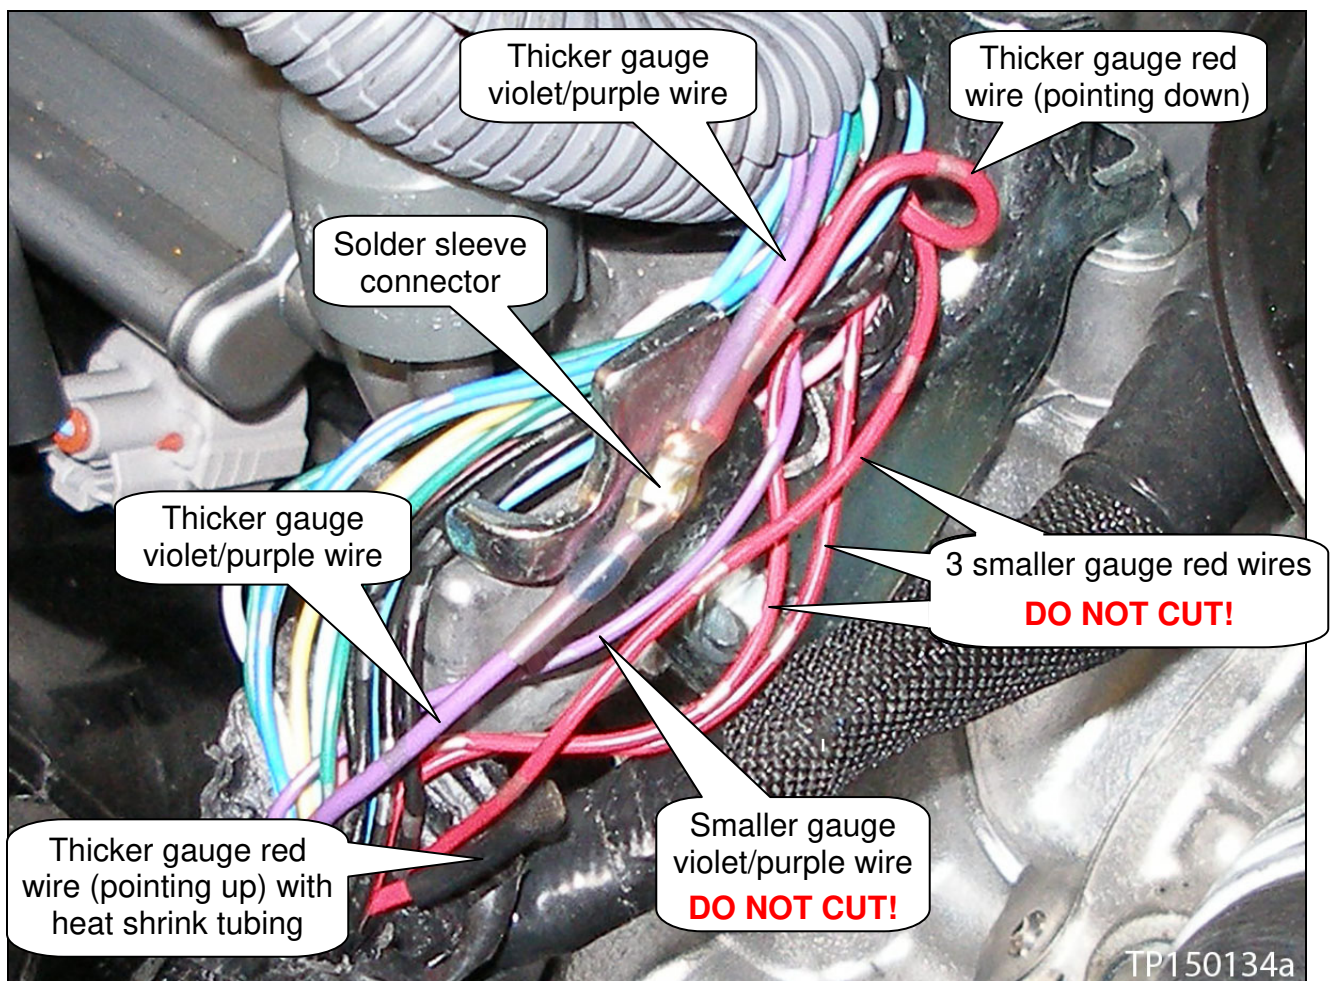

Figure 5
- See Figure 5.
12. Place a one inch piece of heat shrink tubing on the red wire pointing up (see Figure 5).
13. Install the heat shrink tubing by applying heat with Flameless Heat Gun J-46538 or equivalent (see Figure 5).